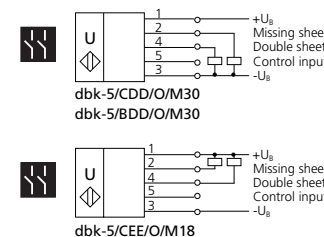

Fig. 2: Standard symbols and terminal assignment
- ☞ Connect the 4-core or 5-core control cable of the receiver as shown in fig. 2.